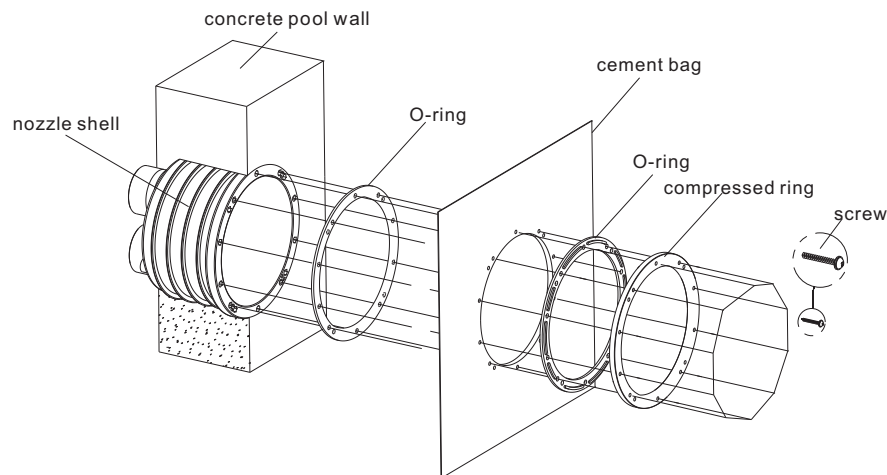

Figure 8
- Embedded the counter current jet outer casing inside the cement wall and the surface of the outer case should be completed with the cement surface. (figure 8)
- Used 10 screws of M6X30 and fixed the rubber ring into the mounting ring. (figure 8)